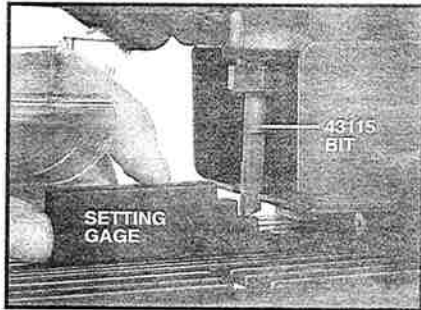

Fig. 5
3. Position the setting gage (furnished with Model 550, see Fig. 5) onto the machine base. The setting gage has five steps that are marked with standard material thicknesses.